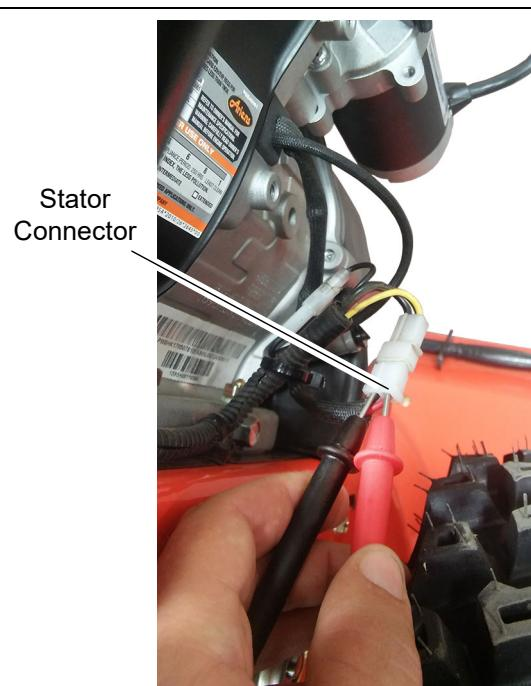

Figure 155
5. Back probe the engine stator output connector. See Figure 155.
If stator output measures over 14 V AC, replace stator. If output is within range, advance to step 3. See Figure 155.
3. Back probe the engine stator output connector. See Figure 155.